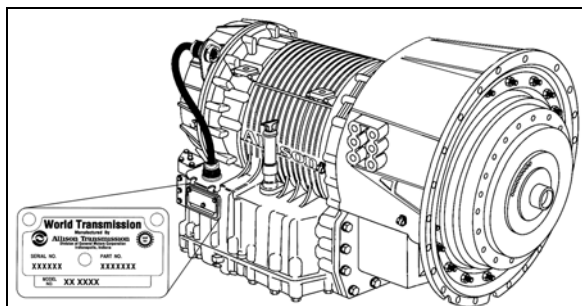

FIGURE 2: ALLISON TRANSMISSION
The transmission identification plate is located on the oil level dipstick side of the transmission (WT) or on transmission (I-Shift) (Fig. 2 & 3). The identification plate shows the transmission serial number, part number (assembly number), and model number. Use all three numbers when ordering parts.